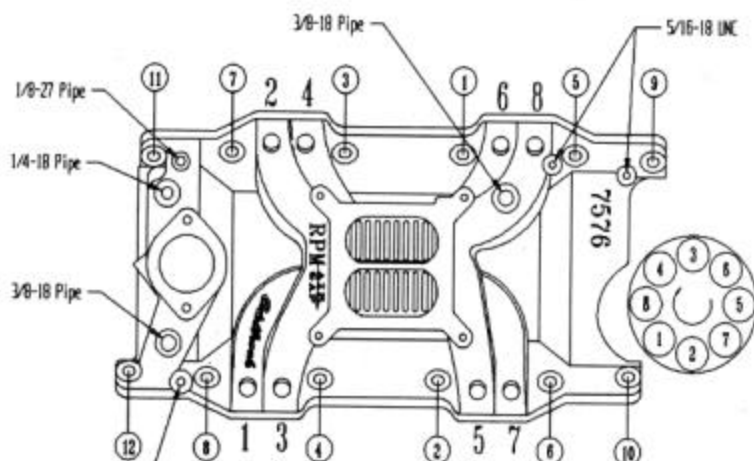

FIGURE 1 - INTAKE MANIFOLD BOLT TIGHTENING SEQUENCE AND FIRING ORDER
- **MANIFOLD TORQUE:** Torque all manifold bolts circled in Figure 1 to 25 ft./lbs. See Figure 1 for proper sequence.